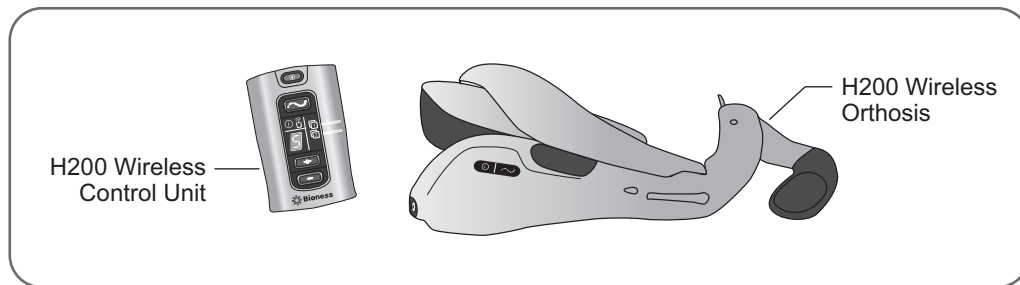

Figure 12-1: Placement of Components to be Registered
2. Place the components to be registered close together on a table, but not touching. See Figure 12-1.